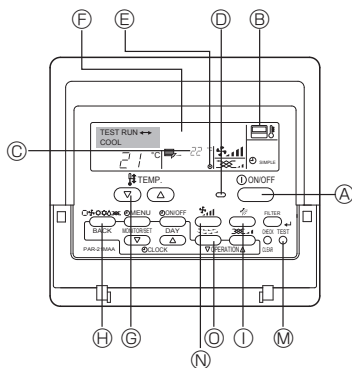

Fig. 7-1
7.2.1. Using wired remote controller (Fig. 7-1)
- ① Turn on the power at least 12 hours before the test run.
- ② Press the [TEST] button twice. "TEST RUN" liquid crystal display
- ③ Press the [Mode selection] button and switch to the cooling mode.
- ④ Press the [Fan speed] button. ➡ Make sure that the wind speed is switched.
- ⑤ Press the [Air direction button] or [Louver button].
- ⑥ Check operation of the outdoor unit fan.
- ⑦ Release test run by pressing the [ON/OFF] button. ➡ Stop
- ⑧ Register a telephone number.